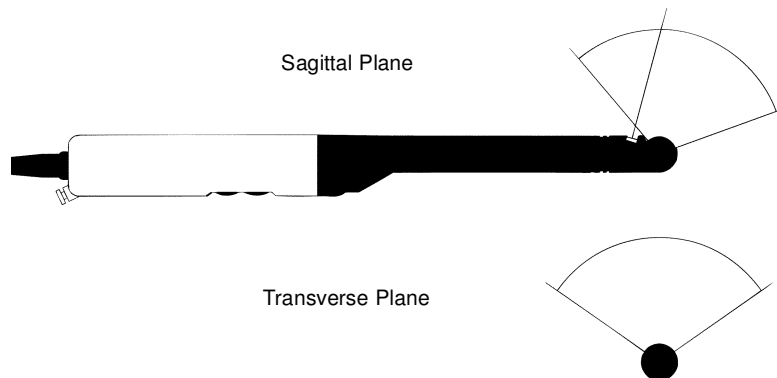

Figure 2. Imaging plane for Biplane Transducer Type 8808.
The transducer contains two convex arrays — one for transverse (T) imaging, and one for sagittal (S) imaging (see Figure 2). The advantage of being able to view two planes simultaneously with one transducer is that the true position of the needle can be seen during puncture and biopsy and a suspicious lesion can be viewed in both planes.